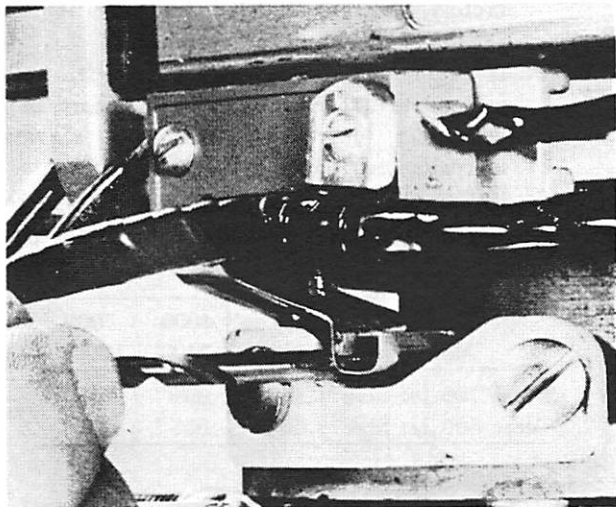

Figure 6. Forward Starting Switch Adjustment, Early Merc 700-600 Engines
- b. Insert a $\frac{5}{32}$ " drill or rod into interlock actuator cam between switch leaf and reverse cam lobe. (Figure 6)